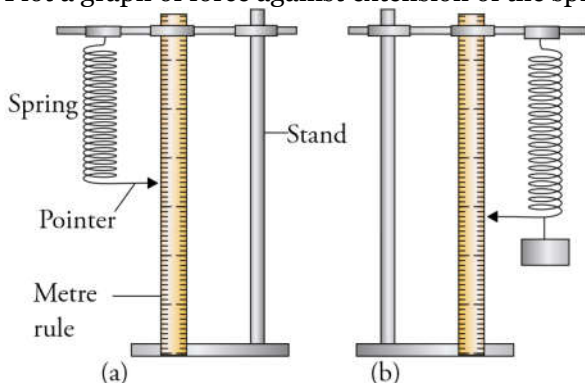

Fig. 7.2: Investigating the relationship between force and extension
- Note and record in a table the initial pointer reading (x_0) on the metre rule. See Fig. 7.2 (a).
- Hook one 50 g mass on the spring, just below the pointer, note and record the new pointer reading (x_1). See Fig. 7.2 (b).